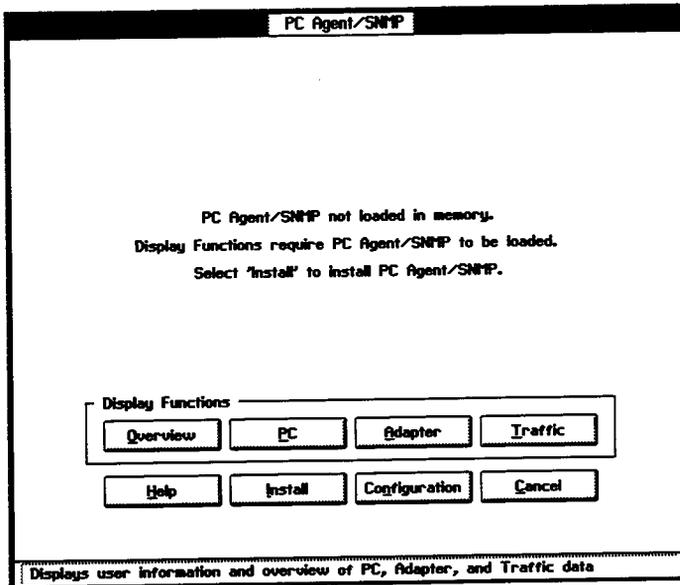

Figure 7-1. PC Agent/SNMP Screen
1. If you just installed an agent-compatible driver, proceed to step 3. Otherwise, load EZStart, as described on page 5-2, and select **PC Agent** from the EZStart main screen. The PC Agent/SNMP screen appears (see Figure 7-1).